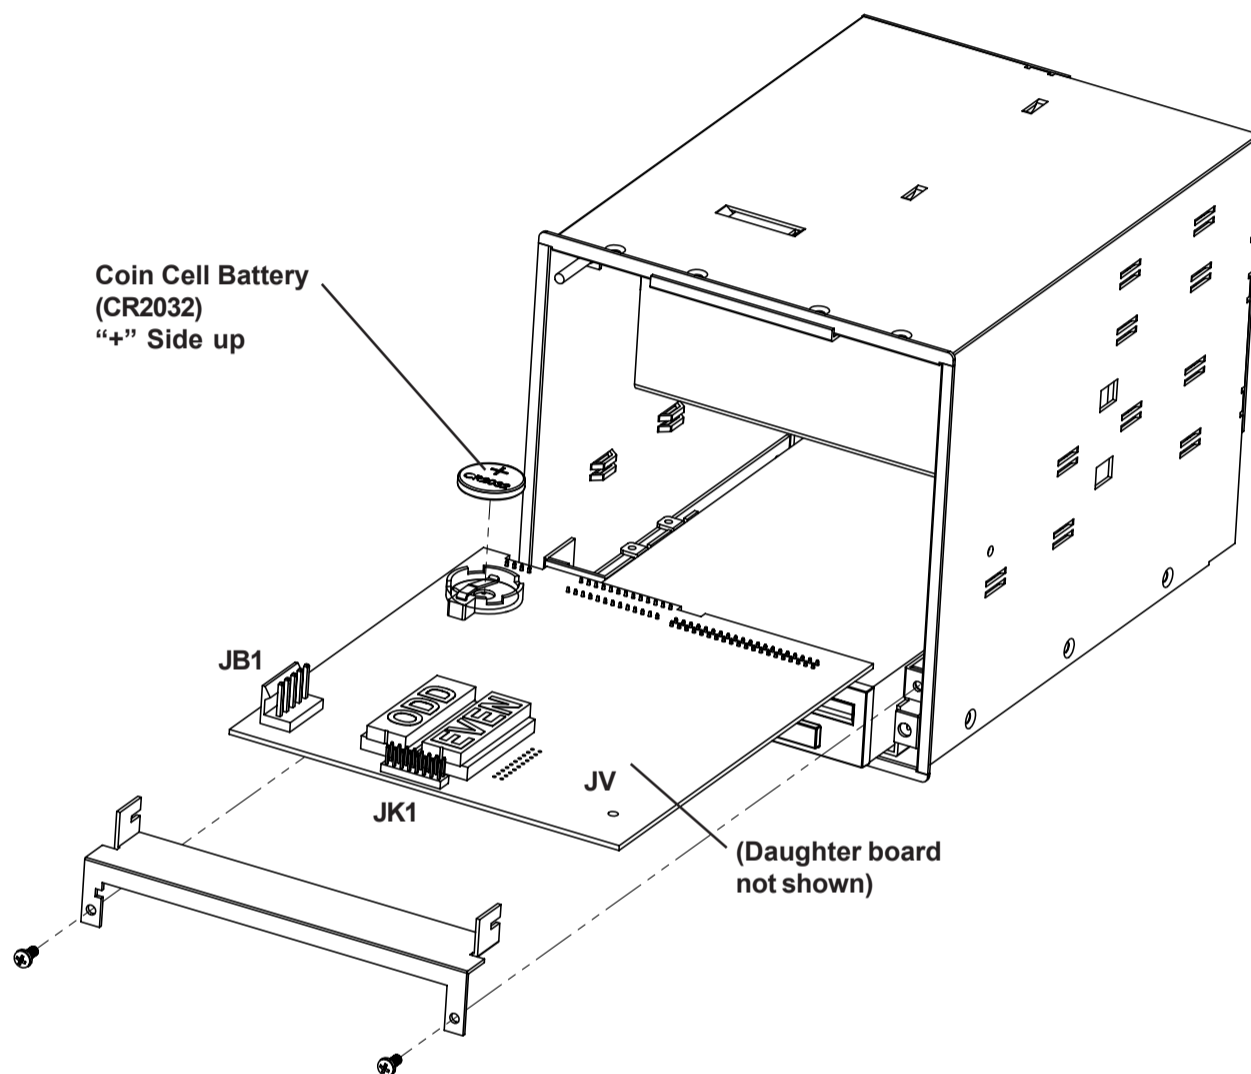

Figure 2 Battery Installation
6. Remove the two screws that hold the drive bracket and main board and slide the disk drive and main board out until the battery can be reached (See Figure 2).